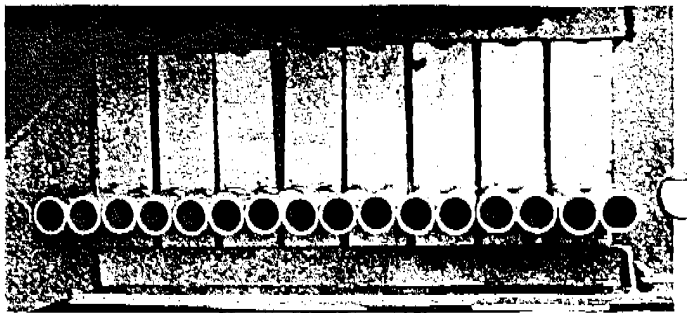

Fig. 32
- b. Unload the fence jacks from the loading racks on each side of the main trailer frame. (Fig. 32)